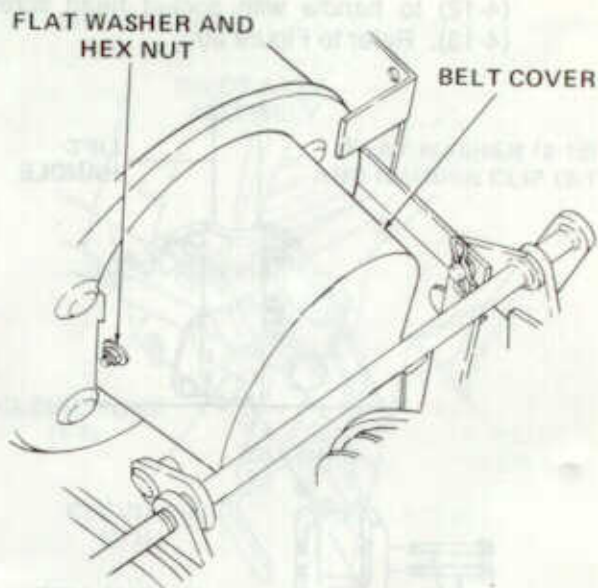

Figure 28
- a. Attach left side of belt cover to blower housing with flat washers and nut removed in Section II, step 8. One flat washer is positioned inside cover between tab on blower housing and cover, and one flat washer is positioned outside cover. Refer to Figure 28.